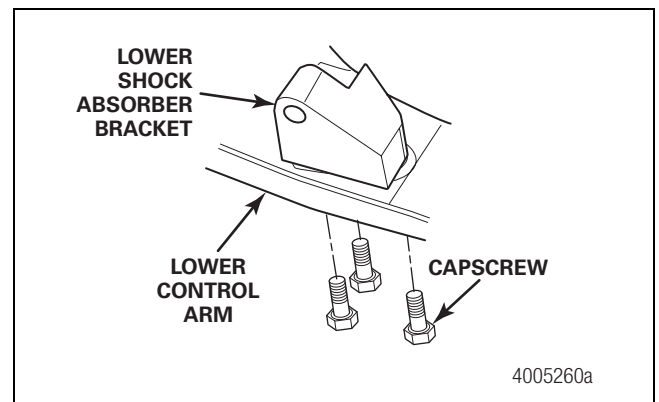

Figure 5.8
2. Remove the three capscrews that secure the lower shock absorber bracket to the lower control arm. Remove the lower shock absorber bracket. Figure 5.8.